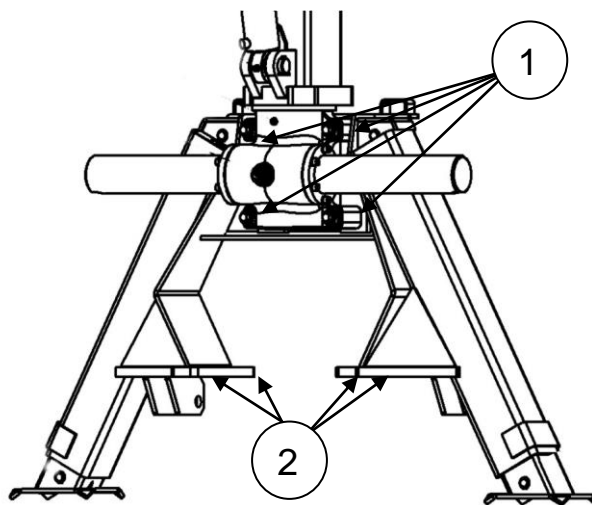

Figure 5. Connection junctions on Palms 500 A-type support legs (B2)
Mounting of forest crane should be performed at the dealer service center or by person authorized by the manufacturer or dealer. Mounting/detaching the crane can also be made by end user, if professional equipment is used, all safety regulations are followed and at least one qualified mechanic is present during all the mounting/detaching process. Strength class for mounting bolts of slewing device-support legs (pos. 1, fig.5) and support legs-trailer (pos. 2, fig. 5) has to be 12.9 (DIN912). Use self-locking nuts M24. The tightening torque for the mounting bolts of the crane (pos. 1, fig. 5) and supporting legs (pos. 2, fig. 5) is 1220 Nm.